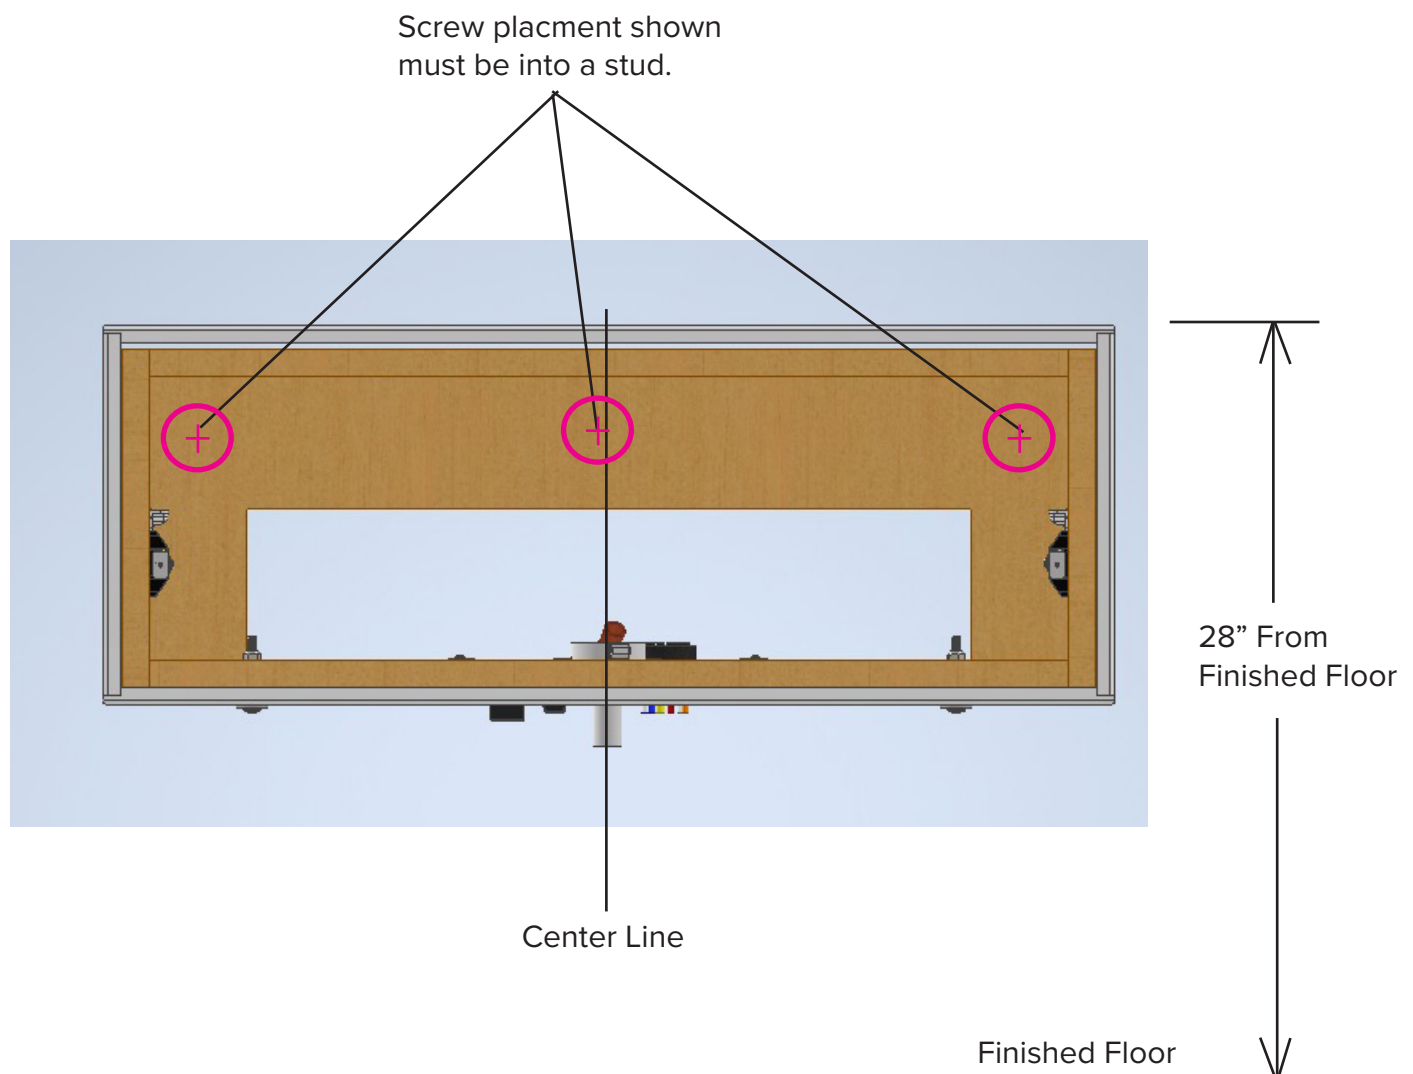

Fig 7.2 - Cabinet Mounting guide
1. Mark out the drywall with a line that's 28 inches from the floor (see Fig 7.2). This line will represent the top of the Corian worksurface.
3. Place the Cabinet against the wall markings, and secure it with three screws as shown (Fig 7.2).